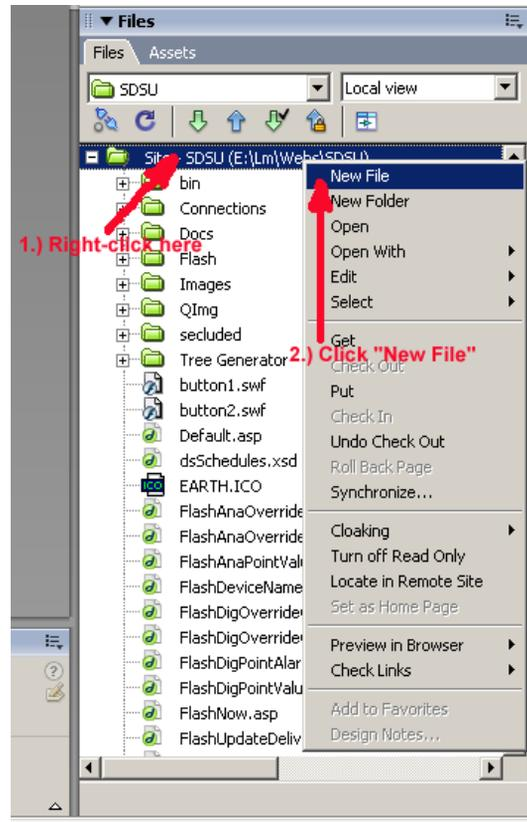
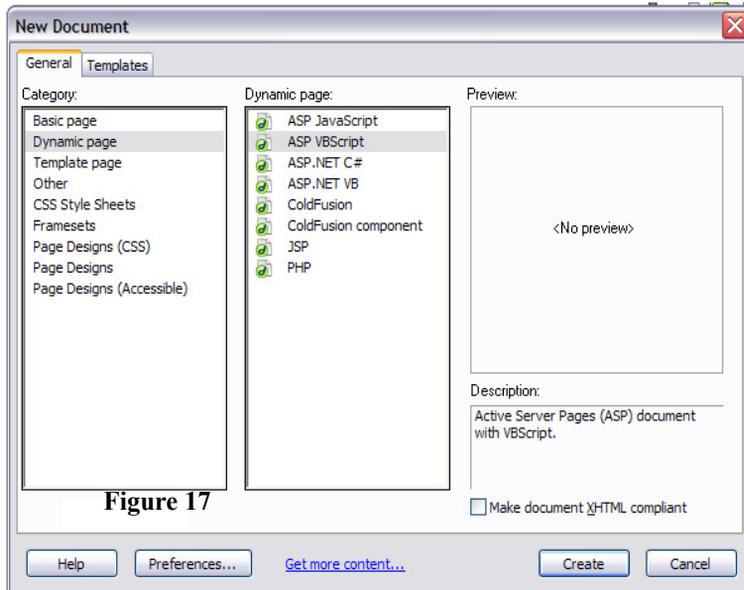

Figure 16.
Figure 17
1. Make a new **.asp** page in *DreamWeaver*. Go to **File/New**, when the new document wizard appears choose Dynamic Page in the **Category** pane and ASP VBScript in the **Dynamic Page** pane, click create(**Figure 17**). This can also be done on the **Local Folder** pane, right-click in the root directory, then select **New File (Figure 16)**. Make sure the new file gets created in the web's root directory.